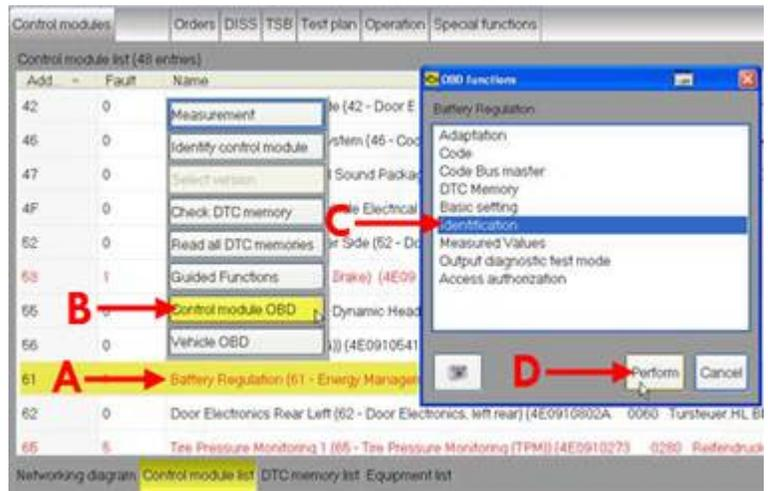

Figure 10. Performing Identification.
2. Open the Control modules tab (Figure 10):
- Right-click on the **Battery Regulation Module (61)** (A).
- Select **Control Module OBD** (B).
- In the OBD functions window, select **Identification** (C).
- Select **Perform** (D).